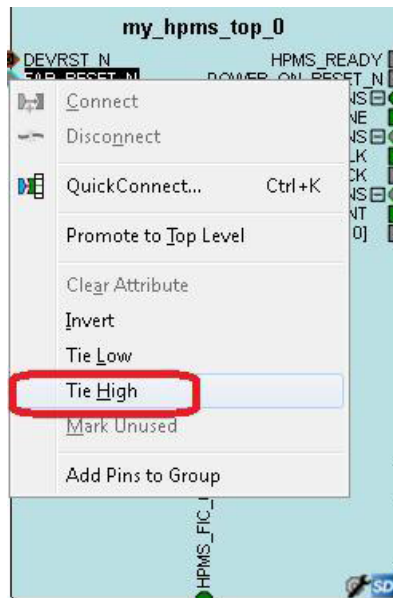

Figure 32 Tie Signal to the Top Using SmartDesign
- Tie **FAB_RESET_N** to **high**. To tie a signal to high, select the signal, right-click and select **Tie High**, as shown in Figure 32.